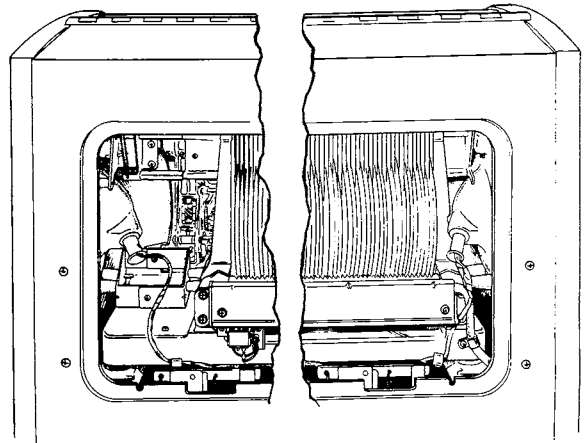

Figure 21.
3. Operate the service switch to position mechanism to the extreme right of its travel thus exposing the serviceable section to view, *Figure 21*.
These assemblies are similar to the cabinet side window lamps and can be serviced in the same manner. They are readily accessible after removal of the rear access panel, *Figure 21*.